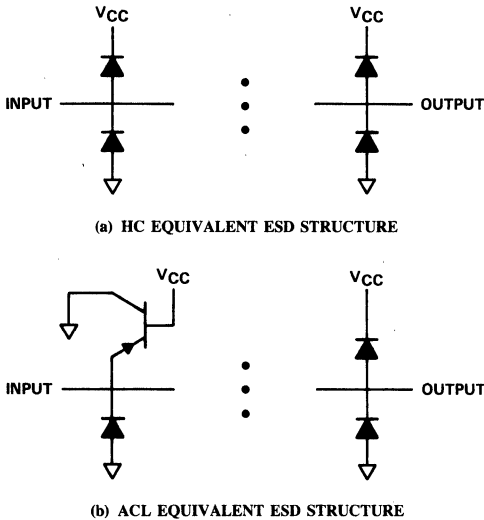

Figure 1. Simplified ESD Structures for HC and ACL Devices
Whenever a system incorporates the use of multiple V_{CC} supplies or partial power-down, the designer must take into account several important device parameters if he is using High-Speed CMOS (HC) or Advanced CMOS (ACL) devices. This is necessary to avoid excessive power dissipation and prevent damage to a device that could lead to a degradation in the reliability of the device. These parameters are the continuous input and output diode currents (I_{IK} and I_{OK}) and the continuous output current (I_O). I_{IK} and I_{OK} refer to the continuous current that is flowing through the input and output electrostatic discharge (ESD) protection circuits (Figure 1 shows functionally equivalent schematics of the ESD structures for HC and ACL devices).